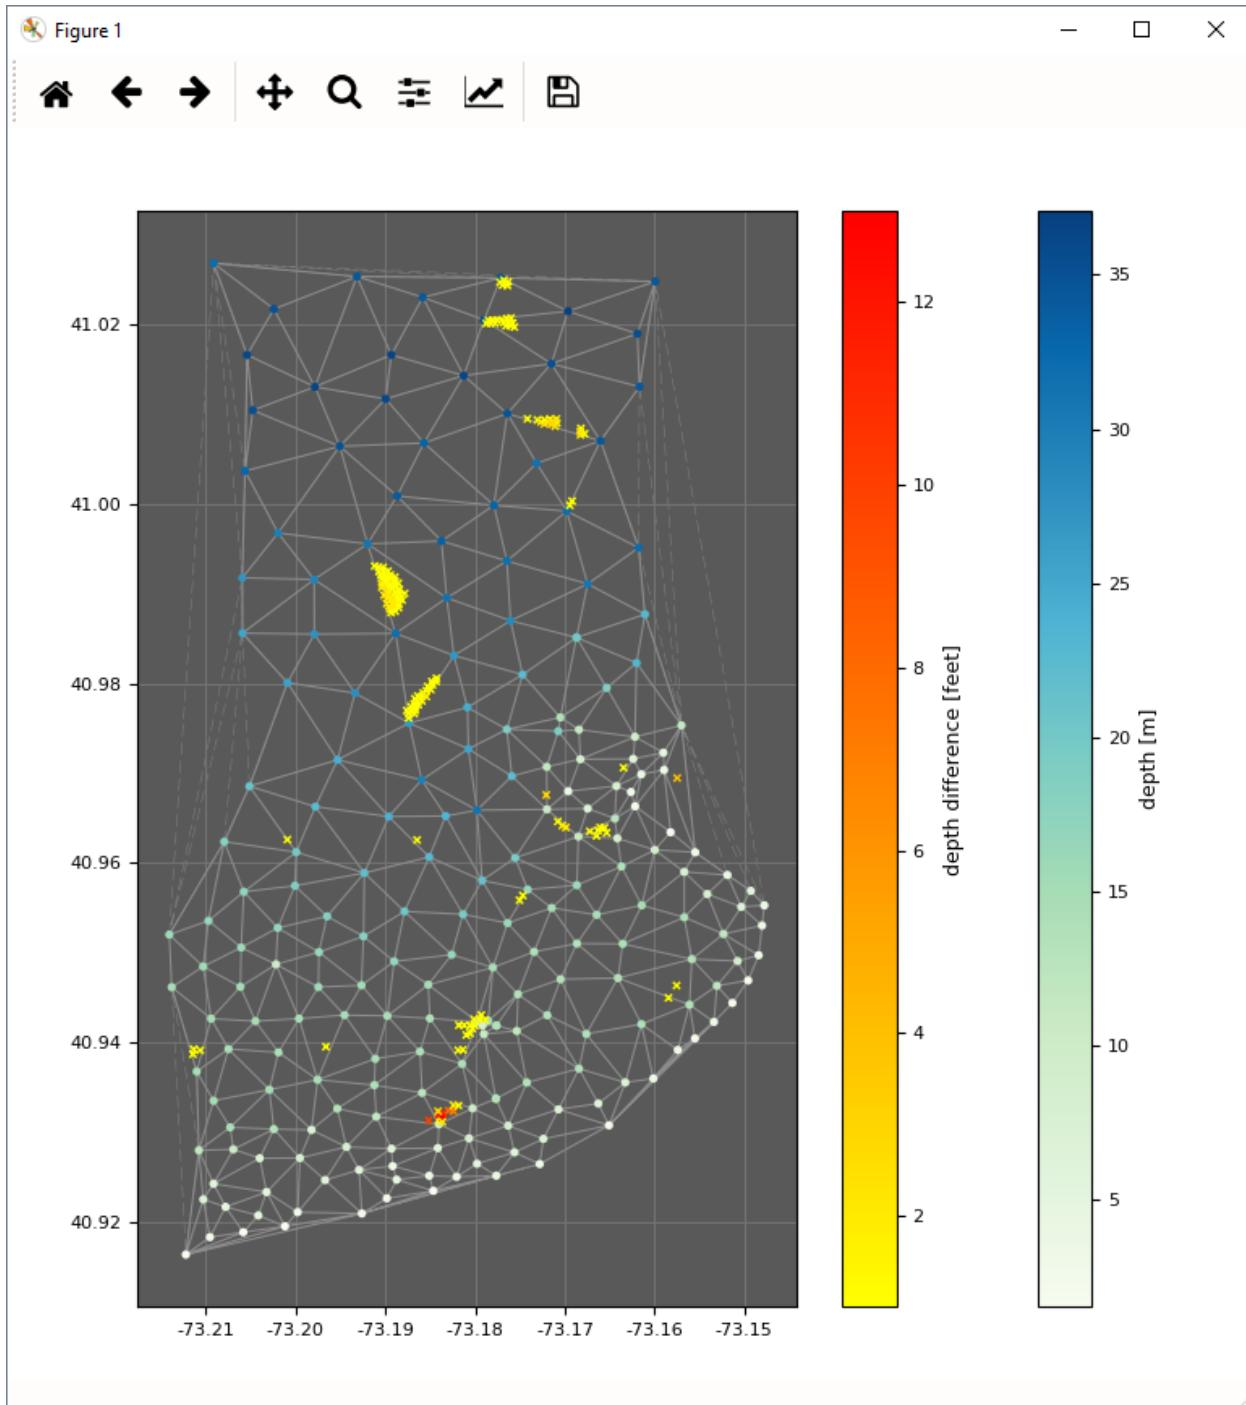

Fig. 2.64: Triangle rule's output display.
- After executing, the results are also shown graphically (Fig. 2.64). Chart-scale soundings are colored by depth, and flagged survey-scale soundings that may not be adequately represented are colored by their discrepancy.